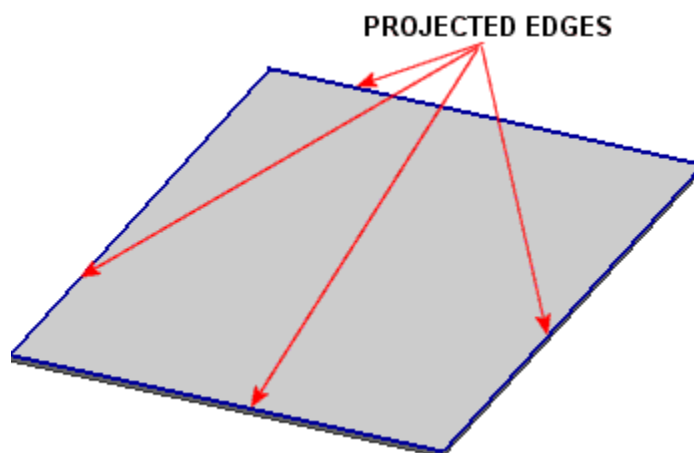

Figure 4: Projected edges.
3. Click the top surface of the face and press the S key to start a new sketch. Note that the outer edges of the face are automatically projected into the sketch (see Figure 4).